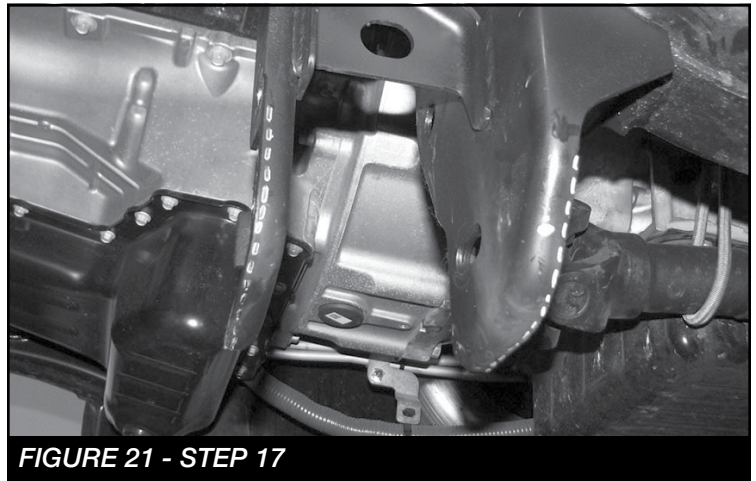

FIGURE 21 - STEP 17
17. Still on the same mount, sand an 1/8" off the edge on both the front and rear mount plates. **SEE FIGURE 21**